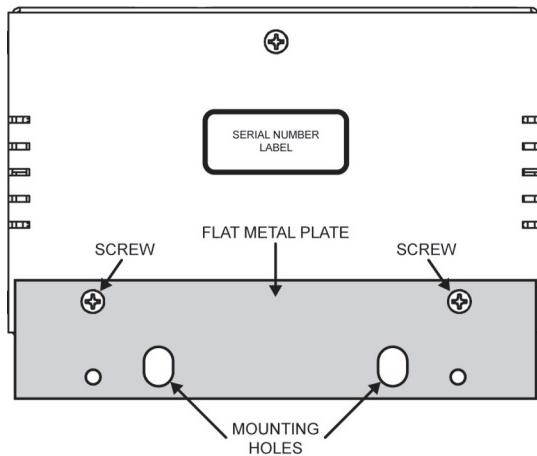

Figure 3 Flat Metal Plate Installation Option
- 2.** Install the **Flat Metal Plate** onto the bottom of the chassis (**Figure 3**) using the screws provided in the Mounting Kit. Do not use the screws removed during **Step 1**.